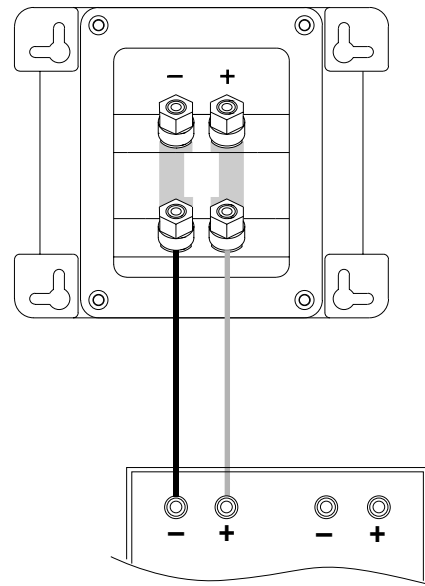

FIGURE 6
2. Repeat the procedure for the other rear channel speaker. **See Figure 6.**